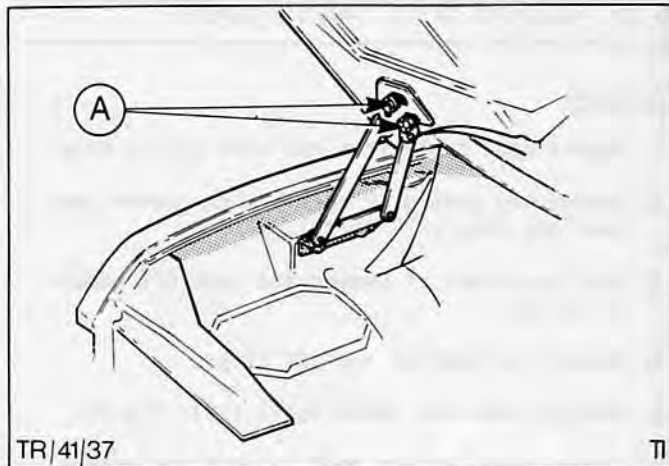

Fig.28. Hood hinge bolts.
3. Remove hood (4 bolts), Fig.28. Use a cover to protect paintwork of cowl panel and fenders.